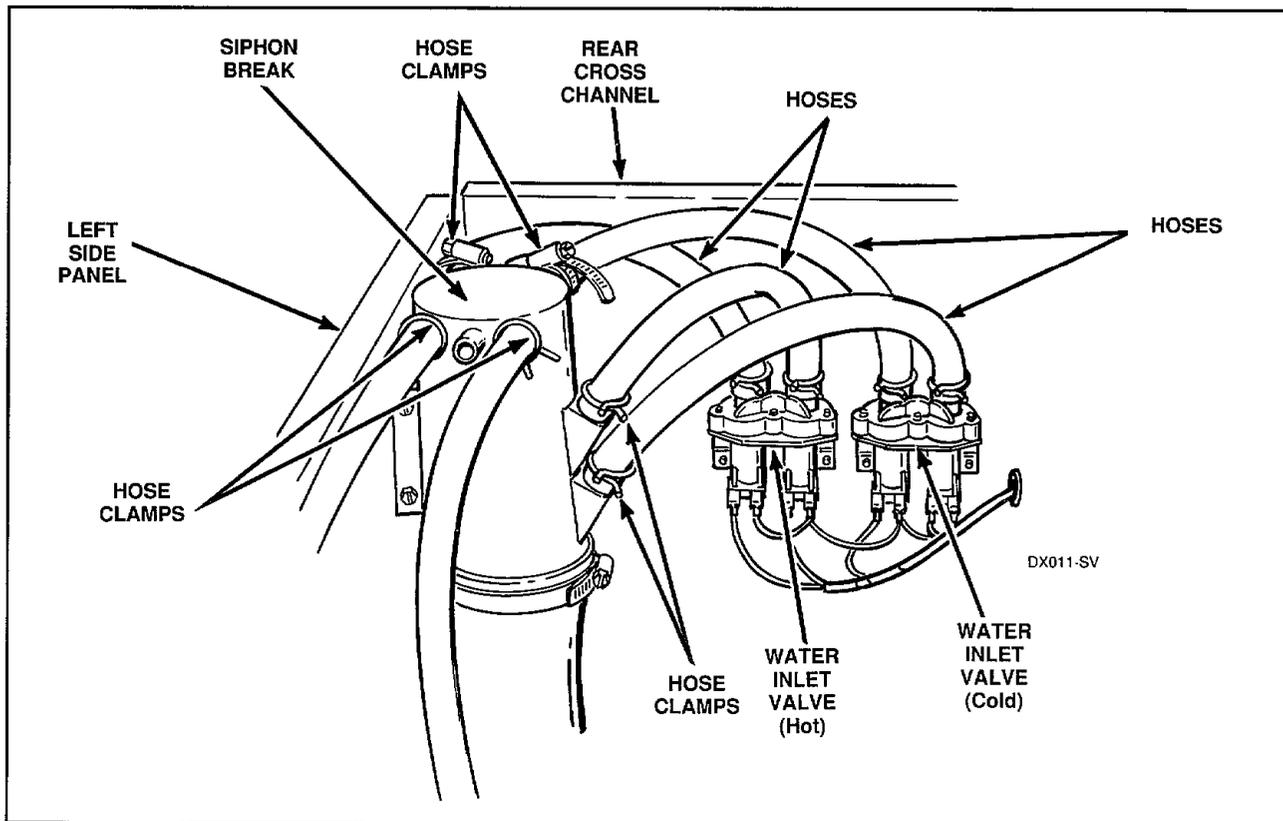

Figure 17
- Disconnect wires from inlet valve solenoids, *Figure 17*.
- Loosen hose clamps and remove dispenser hoses at the water inlet valve, *Figure 17*.
- Loosen hose clamps and disconnect hoses from siphon break, *Figure 17*.